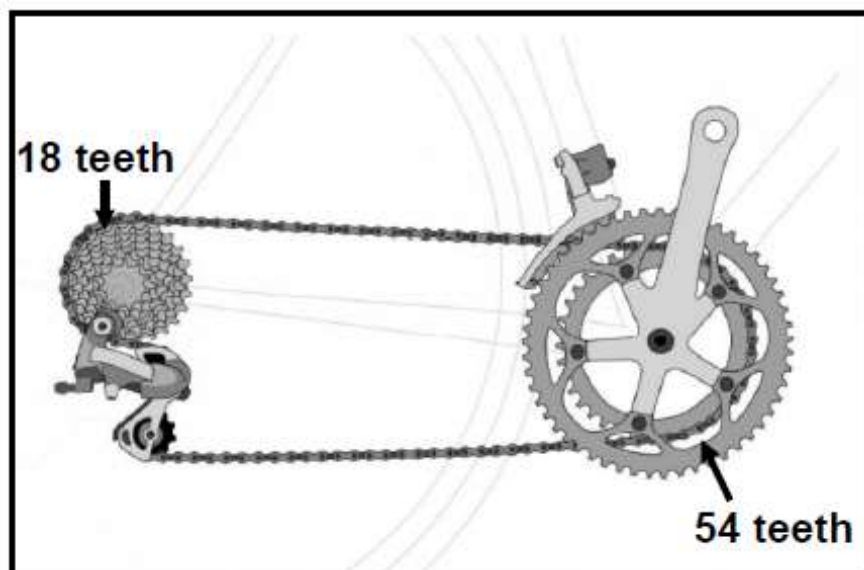

FIGURE 9.10
- 9.10 The chain-drive system of a bicycle is shown in FIGURE 9.10 below. Calculate the gear ratio of the system.